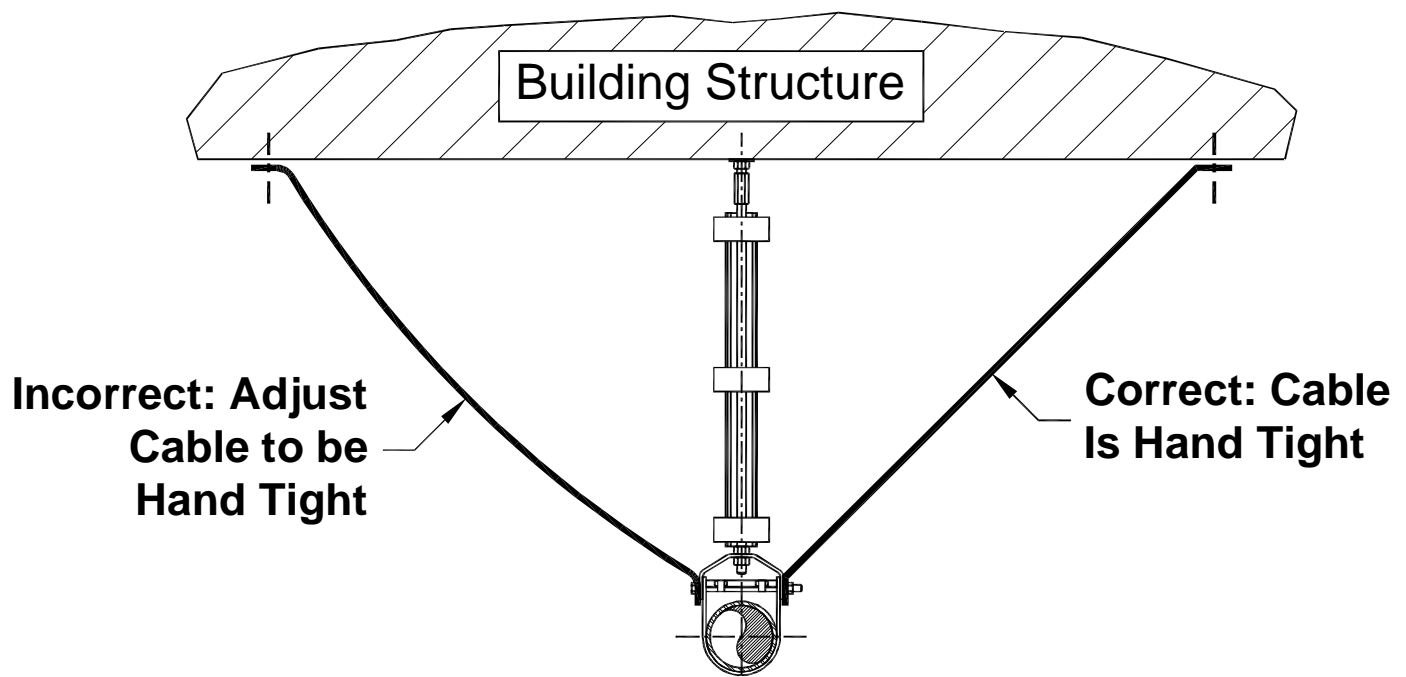

Figure I5-75; All Seismic Restraint Cables must be Hand Tight
2. Be sure all restraint locations have the proper restraints, transverse (T) and/or Longitudinal (L) and/or (TL), installed per the drawings provided by Kinetics Noise Control or the responsible engineer of record.
3. Make sure all longitudinal (L) restraints on trapeze supported pipe and duct are **balanced**. Seismic forces acting through the longitudinal (L) restraints should not twist the pipe or duct through the trapeze bar.
4. All seismic restraint cable must be hand tight as shown in Figure I5-75, and the pipe(s) or duct must be centered.